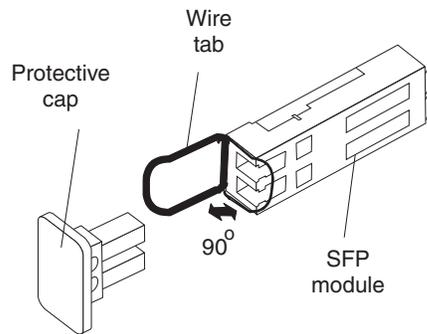

Figure 43. Unlocking the SFP module latch - wire variety
- For SFP modules that contain wire tabs, unlock the SFP module latch by pulling the wire latch outward 90°, as shown in Figure 43 on page 53.